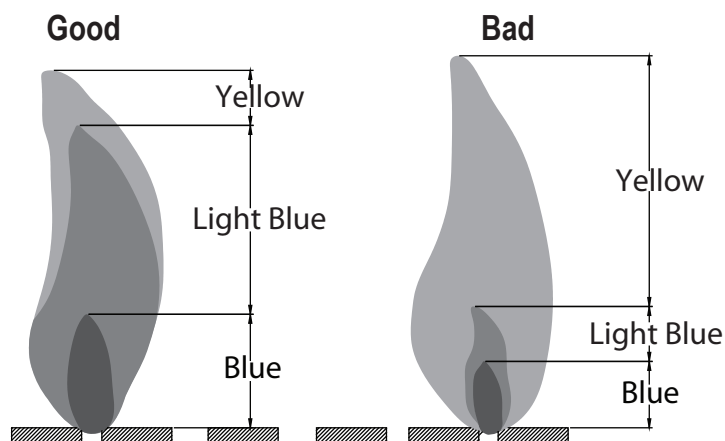

Figure 20
**Observe Flame Height When Lit:** The burner will display blue and yellow flames. These flames should be a blue / yellow color between 1~2 in. height (See Figure 20). These flames should not be yellow or produce thick smoke. This would indicate an obstruction of airflow through the burners. The flames should be blue with straight yellow tops.